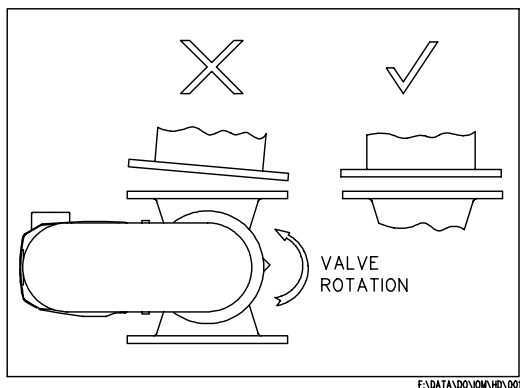
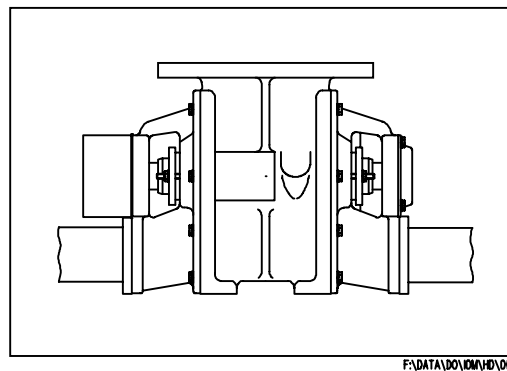

Fig 3
Fig4
- 1.1 Check the valve externally for damage and internally for foreign objects. Install the valve using compressible gaskets on all flanges; the valve body must not be stressed or used to support ancillary equipment (Fig 3). All valve types must be installed the correct way up, ie, the nameplate will be the right way up and the gearbox will be on the left, viewed from the drive end. BS and BSG valves may be installed in the conveying line with the flow in either direction (Fig 4). Air purge shaft seals (if fitted) must be connected to a regulated clean dry air supply at a pressure of 0.13 to 0.33 bar (2 to 5 p.s.i.) above the maximum static pressure in the valve. Side vent ports (optional) must be connected to suitable pipework, or remain plugged. **Do not allow the valve to be used without plugs or pipe securely attached.**